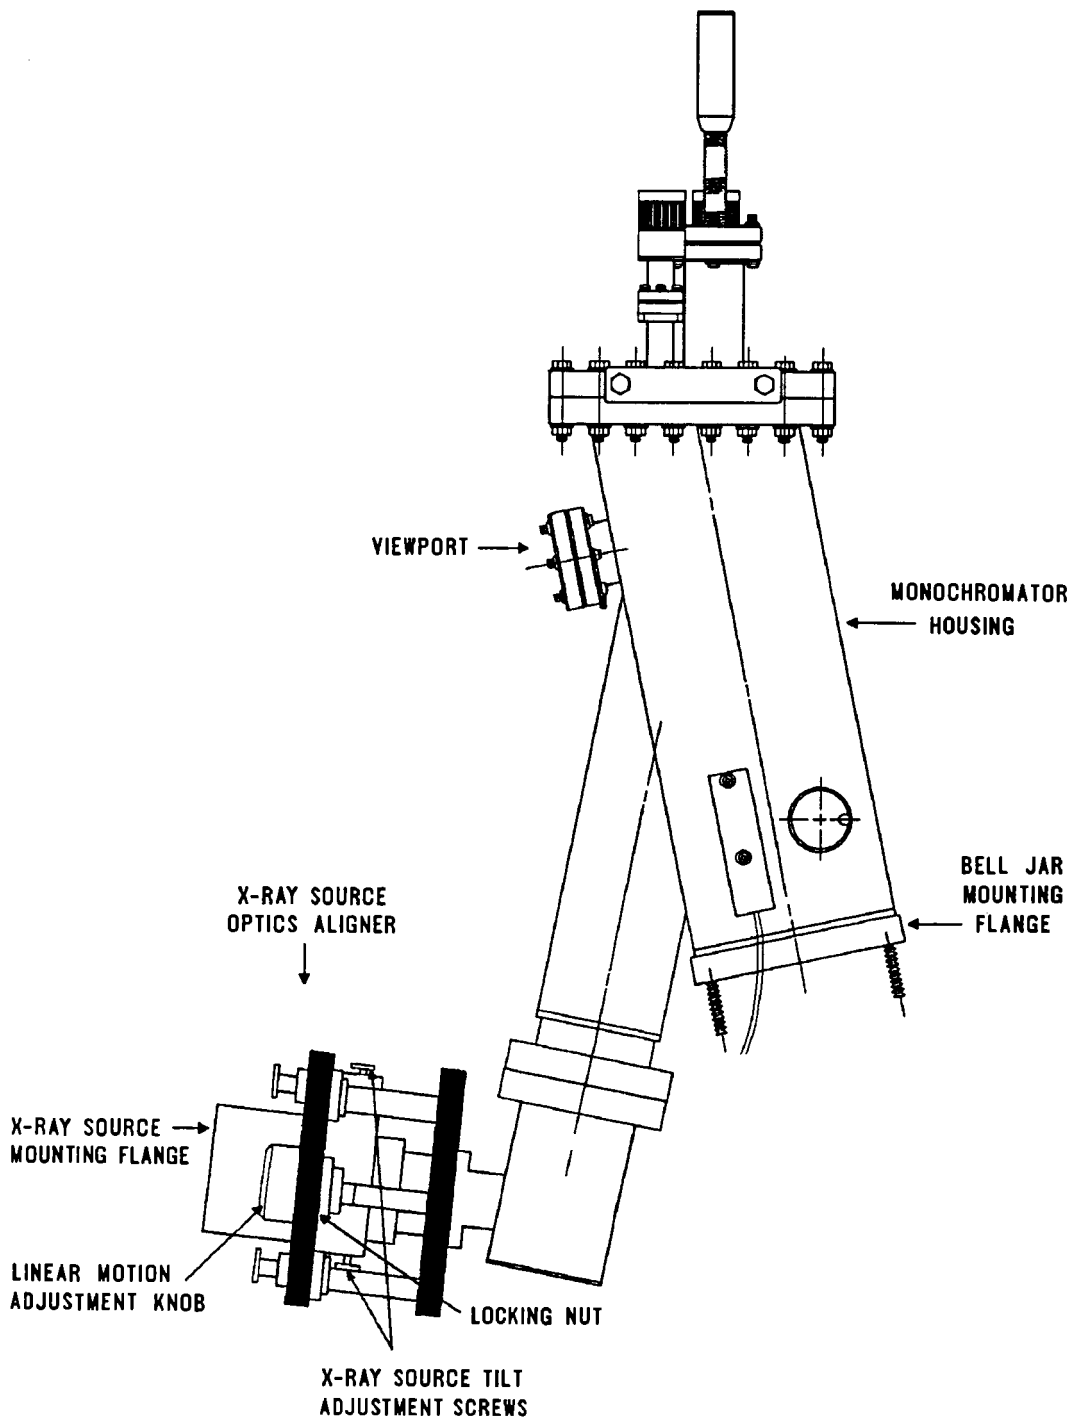

Figure 3-1. Side View of the PHI Model 10-410 Toroidal Monochromator.
6. Adjust the x-ray source as follows. Center the tilt control by setting it to its mid-range position. Extend or retract the linear motion to give a distance of approximately 2.6 inches between the black plates (refer to Fig. 3-1).